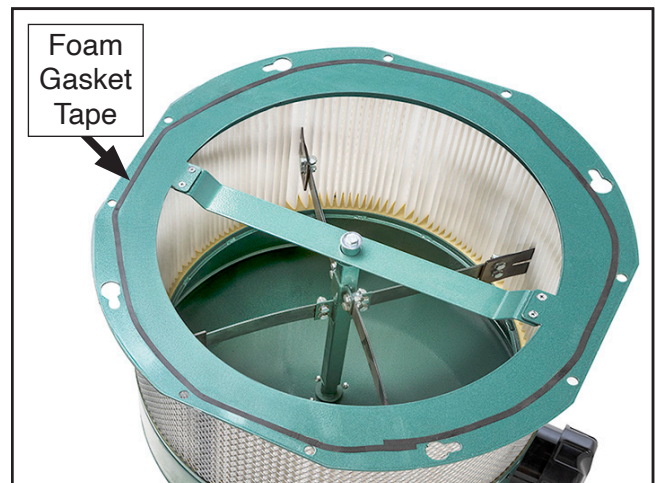

Figure 60. Foam gasket tape installed on filter.
13. Turn filter right side up and install 3 x 6mm foam gasket tape around circumference of filter, as shown in **Figure 60**.